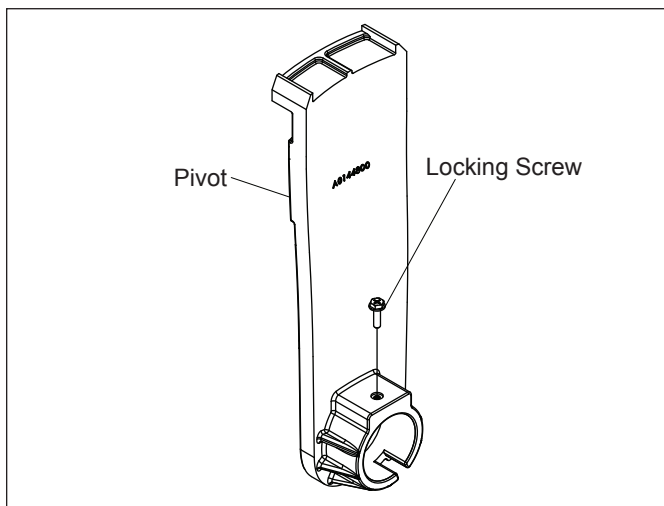

Figure 11. Locking Screw Location
6. The laminar jet is installed on two (2) pivots. Loosen the locking screws to adjust the jet angle. Refer to Figure 11. Once you are satisfied with the angle and location of the jet, tighten the locking screws.
7. Secure the deck canister lid to the deck canister collar, using two (2) #10 by 1½ inch, Phillips, flat head stainless steel screws.